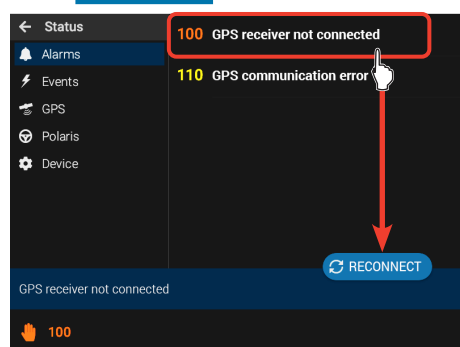
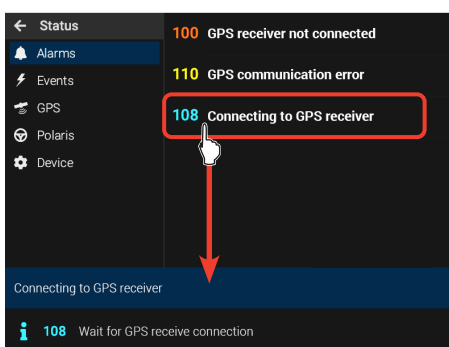

Fig. 113
Fig. 114
Press **Status** to display the **Alarms** menu (Fig. 114).
- By selecting the notification, an indication (Fig. 113) is activated: for the relevant procedure, refer to par. 18.1.1 on page 51.
- Follow the instructions displayed (examples in Fig. 113 and Fig. 114)